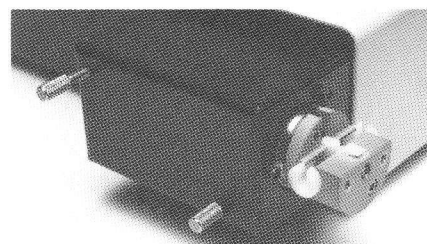

Figure 29
1. Install pinch valve assembly. See Figure 29.